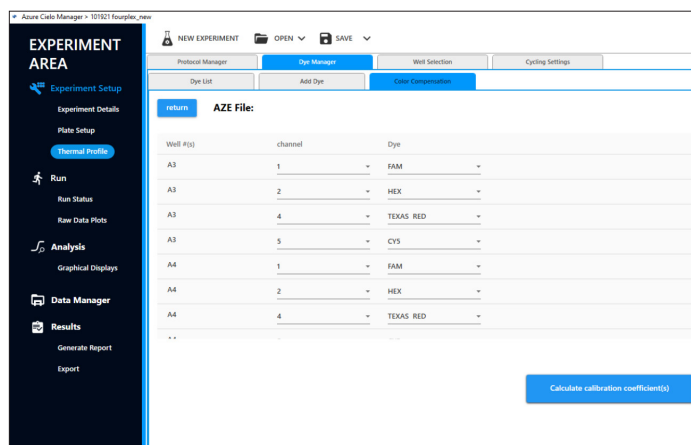

Figure 3.
6. Click the “load” button. Then click the “Calculate Color Compensation Coefficients” button (Figure 3).